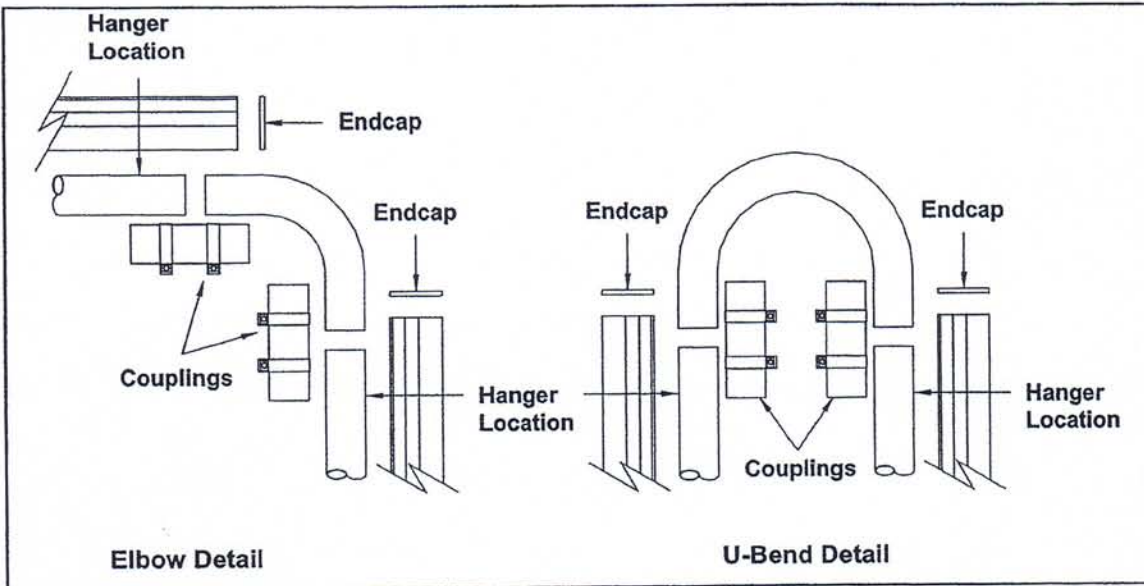

Figure 13: 90° Elbow and U-Tube Assembly Detail
- If required by the heater layout, install 90° elbows or U-tube where indicated. Refer to Figure 13 for details.